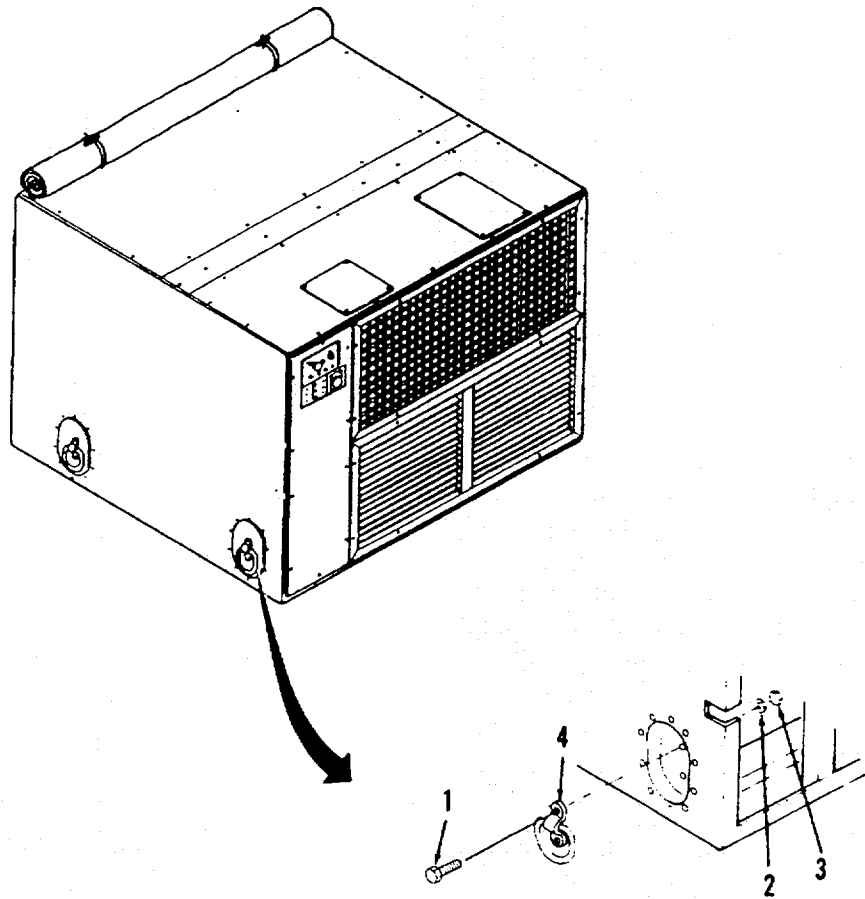

Figure 4-27. Lifting Ring and Clips.
**a. Removal** (Refer to Figure 4-27).
- (1) Remove two screws (1), two lock washers (2), two nuts (3), and lifting ring and clip (4).
- (2) Repeat for other three lifting rings and clips.